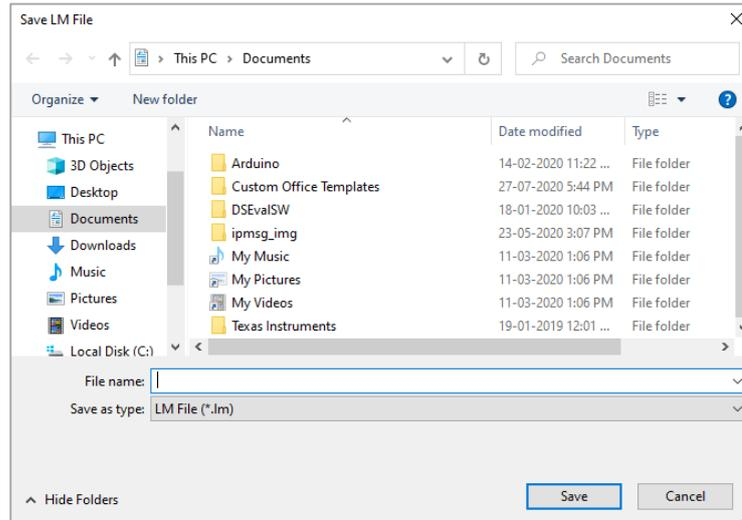

Figure 14 Selecting file location for saving data summary
- Select the download option, choose the appropriate file path and batch file name for saving the data file and press  button in the pop-up window as shown in figure 14.